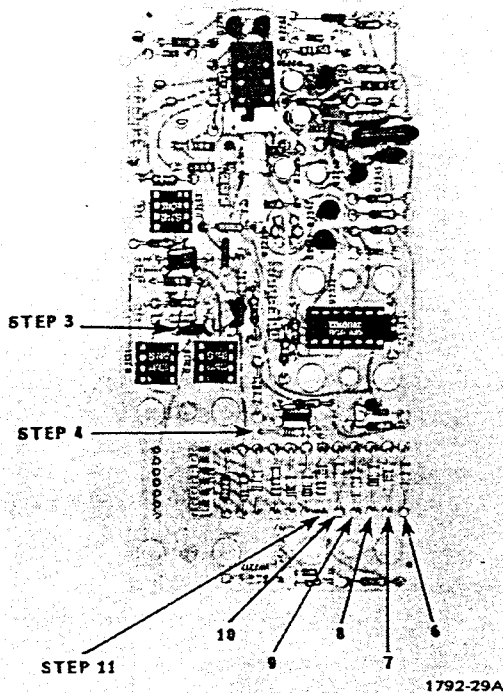

Fig. 4-21. Vertical Amp/Slow Ramp Board
3. Connect the lead from the multimeter's LO terminal to C2137 on the Vertical-Amp/Slow-Ramp Board (the side towards the edge of the board, see Fig. 4-21).